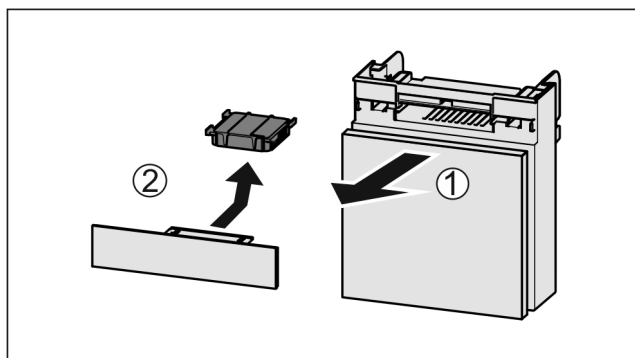

Fig. 255
- ▶ Pull out the compartment Fig. 255 (1).
- ▶ Remove the carbon filter Fig. 255 (2).